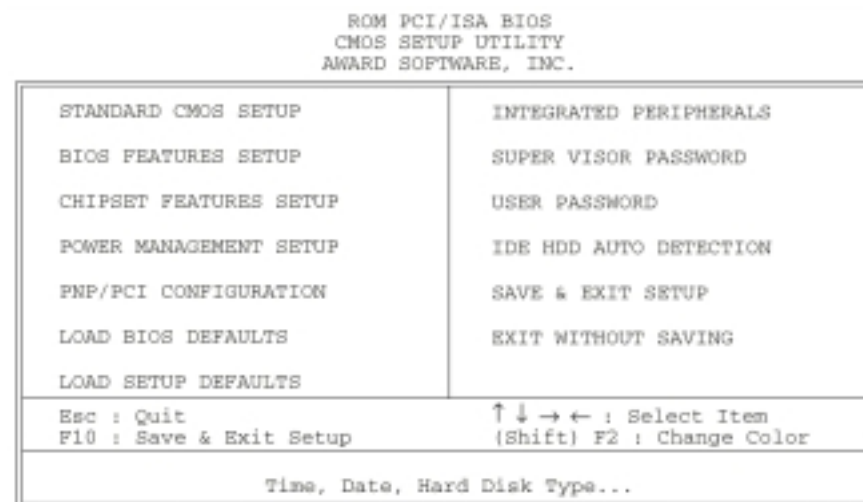

Figure 3-1. Main Program Screen
2. Press the key and the main program screen appears as in figure 3-1.